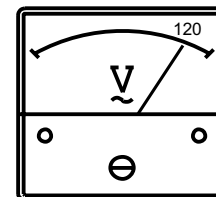

Figure 40. Voltmeter
- The generator's AC-voltmeter (Figure 40) will display the generator's output in **VOLTS**. If the voltage is not within the specified tolerance,